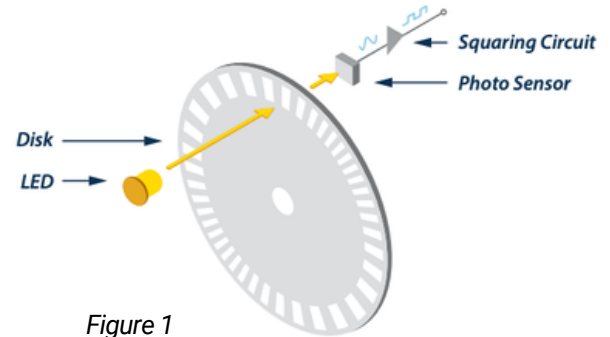

Figure 1
Encoders use different types of technologies to create a signal, including: mechanical, magnetic, resistive, and optical – optical being the most common. In optical sensing, the encoder provides feedback based on the interruption of light, as illustrated in Figure 1.
A beam of light emitted from an LED passes through the Code Disk (see Figure 1), which is patterned with opaque lines, much like the spokes on a bike wheel. As the encoder shaft rotates, the light beam from the LED is interrupted by the opaque lines on the Code Disk before being picked up by the Photodiode Assembly. This produces a pulse signal: light = on; no light = off. The signal is sent to the counter or controller, which will then send the signal to produce the desired function.
As seen in Figure 1, a beam of light emitted from an LED passes through a transparent disk patterned with opaque lines. The light beam is picked up by a photodiode array, also known as a photosensor. The photosensor responds to the light beam, producing a sinusoidal wave form, which is transformed into a square wave or pulse train. This pulse signal is then sent to the counter or controller, which will then send the signal to produce the desired function.
Figure 1 diagrams a typical rotary encoder. Incremental encoders can provide a once-per-revolution pulse (often called the index, marker, or reference) that occurs at the same mechanical point of the encoder shaft revolution. This pulse is on a separate output channel (Z) from the signal channel or quadrature outputs. The index pulse is often used to position motion control applications to a known mechanical reference.